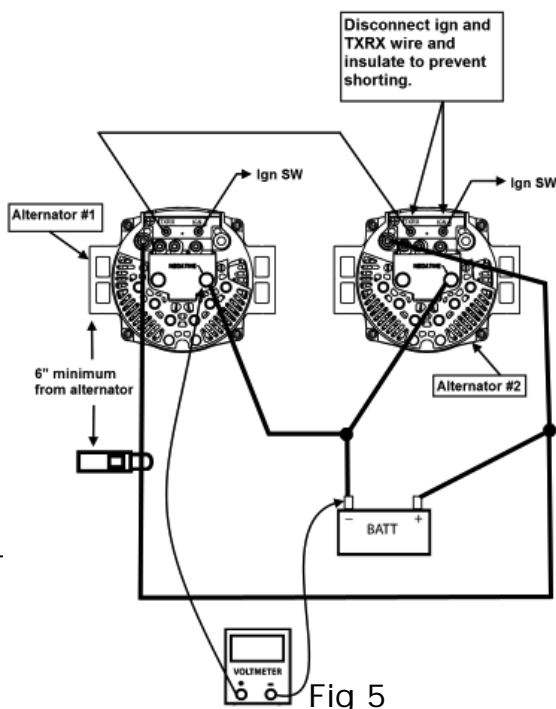

Fig 5
- 1) Connect voltmeter and ammeter per Fig 5.